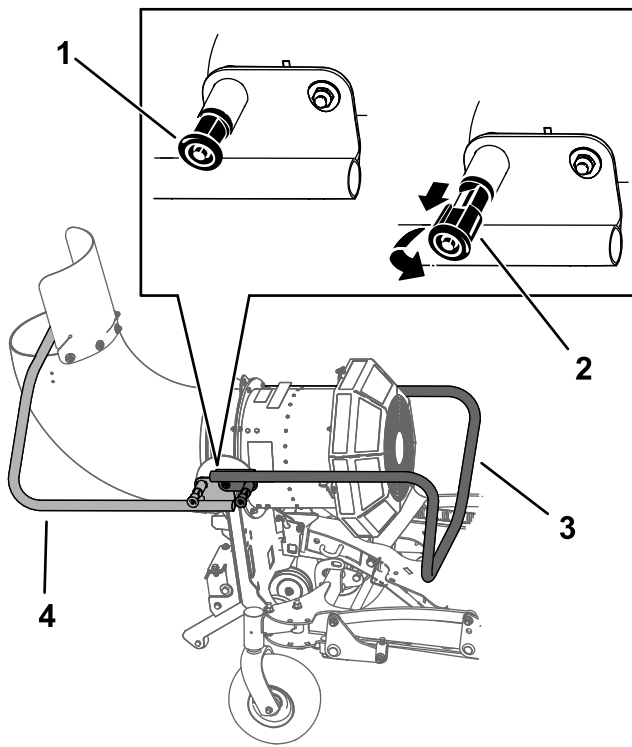

Figure 16
4. Pull out the kickstand locking pins on both sides of the machine, rotate them 90 degrees so that they are disengaged, and rotate the kickstand away from the machine (Figure 16). Engage the pins and ensure that they snap into position.